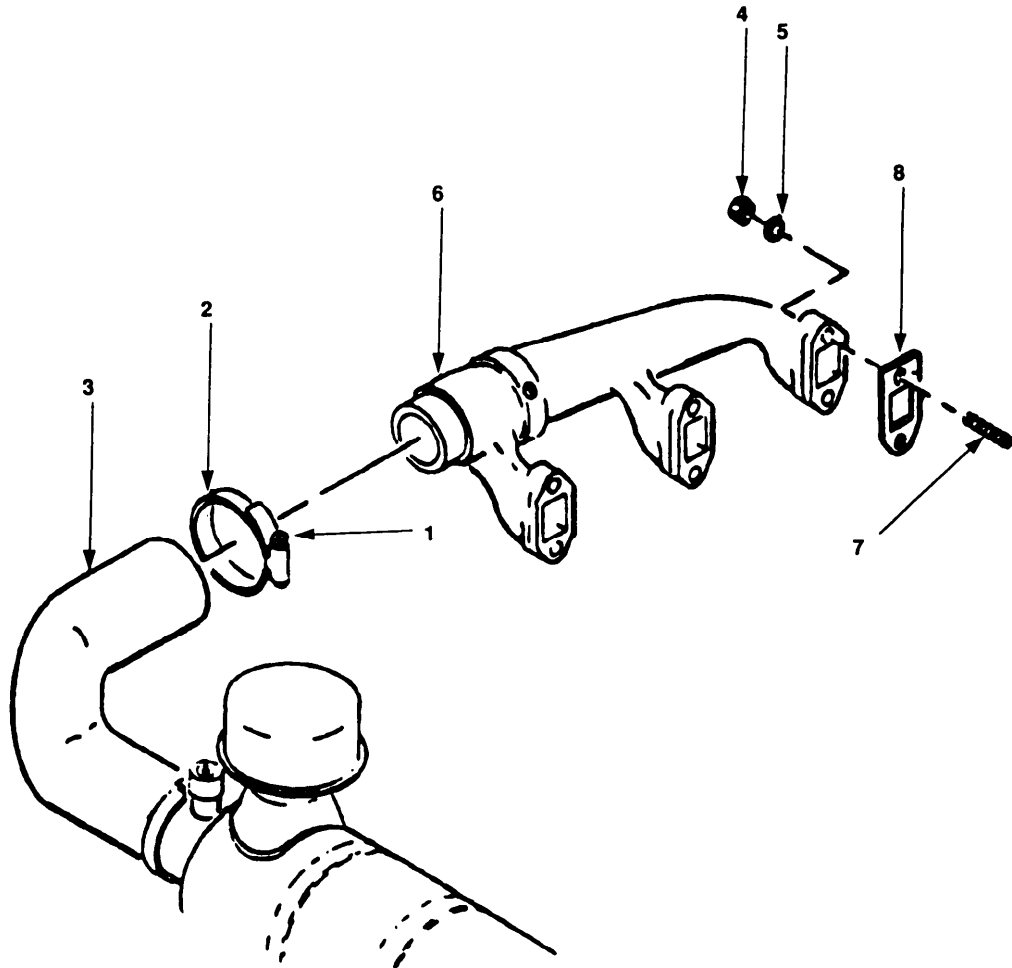

Figure. 5-4 Intake. Manifold Maintenance.
- a. Loosen screw (figure 5-4, 1) of clamp (2) on airduct hose (3).
- b. Slide clamp (2) over airduct hose (3).
- c. Remove six nuts (4) and washers (5).
- d. Pull intake manifold (6) away from studs (7) and withdraw intake manifold (6) from airduct hose (3).
- e. Remove gaskets (8) and discard.
- a. Install gaskets (8) on studs (7).
- b. Insert intake manifold (6) in airduct hose(3).
- c. Position intake manifold (6) on studs (7) and install washers (5).
- d. Install nuts (4) on studs (7).
- e. Slide clamp (2) until positioned over airduct hose (3) and intake manifold (6), then tighten screw (1).